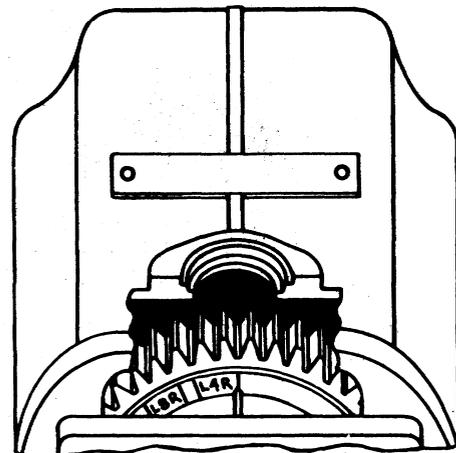

Figure 3. Alignment of Timing Marks on Distributor Gear – 4 Cylinder, Right Hand Rotation
a. Four and eight cylinder, all types – The timing rib on the distributor block **MUST** align within 1/2 tooth either side of the "L" or "R" mark on the gear, depending on magneto rotation. (See figure 3.)